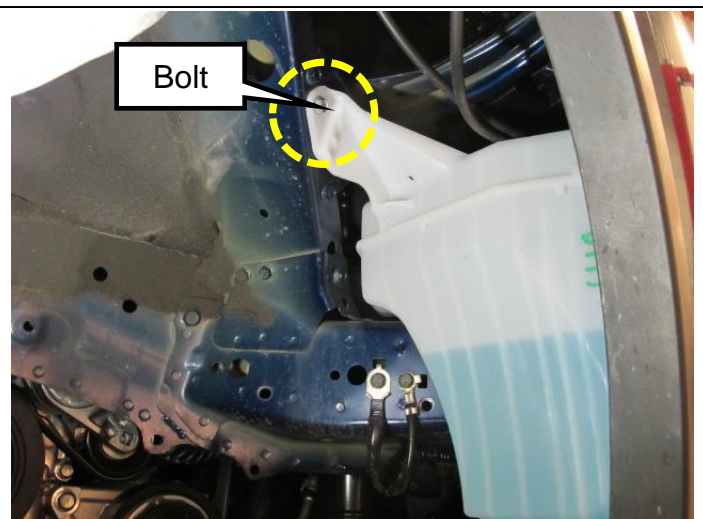

Figure 11
11. Remove upper 10 mm washer tank bolt (Figure 11).